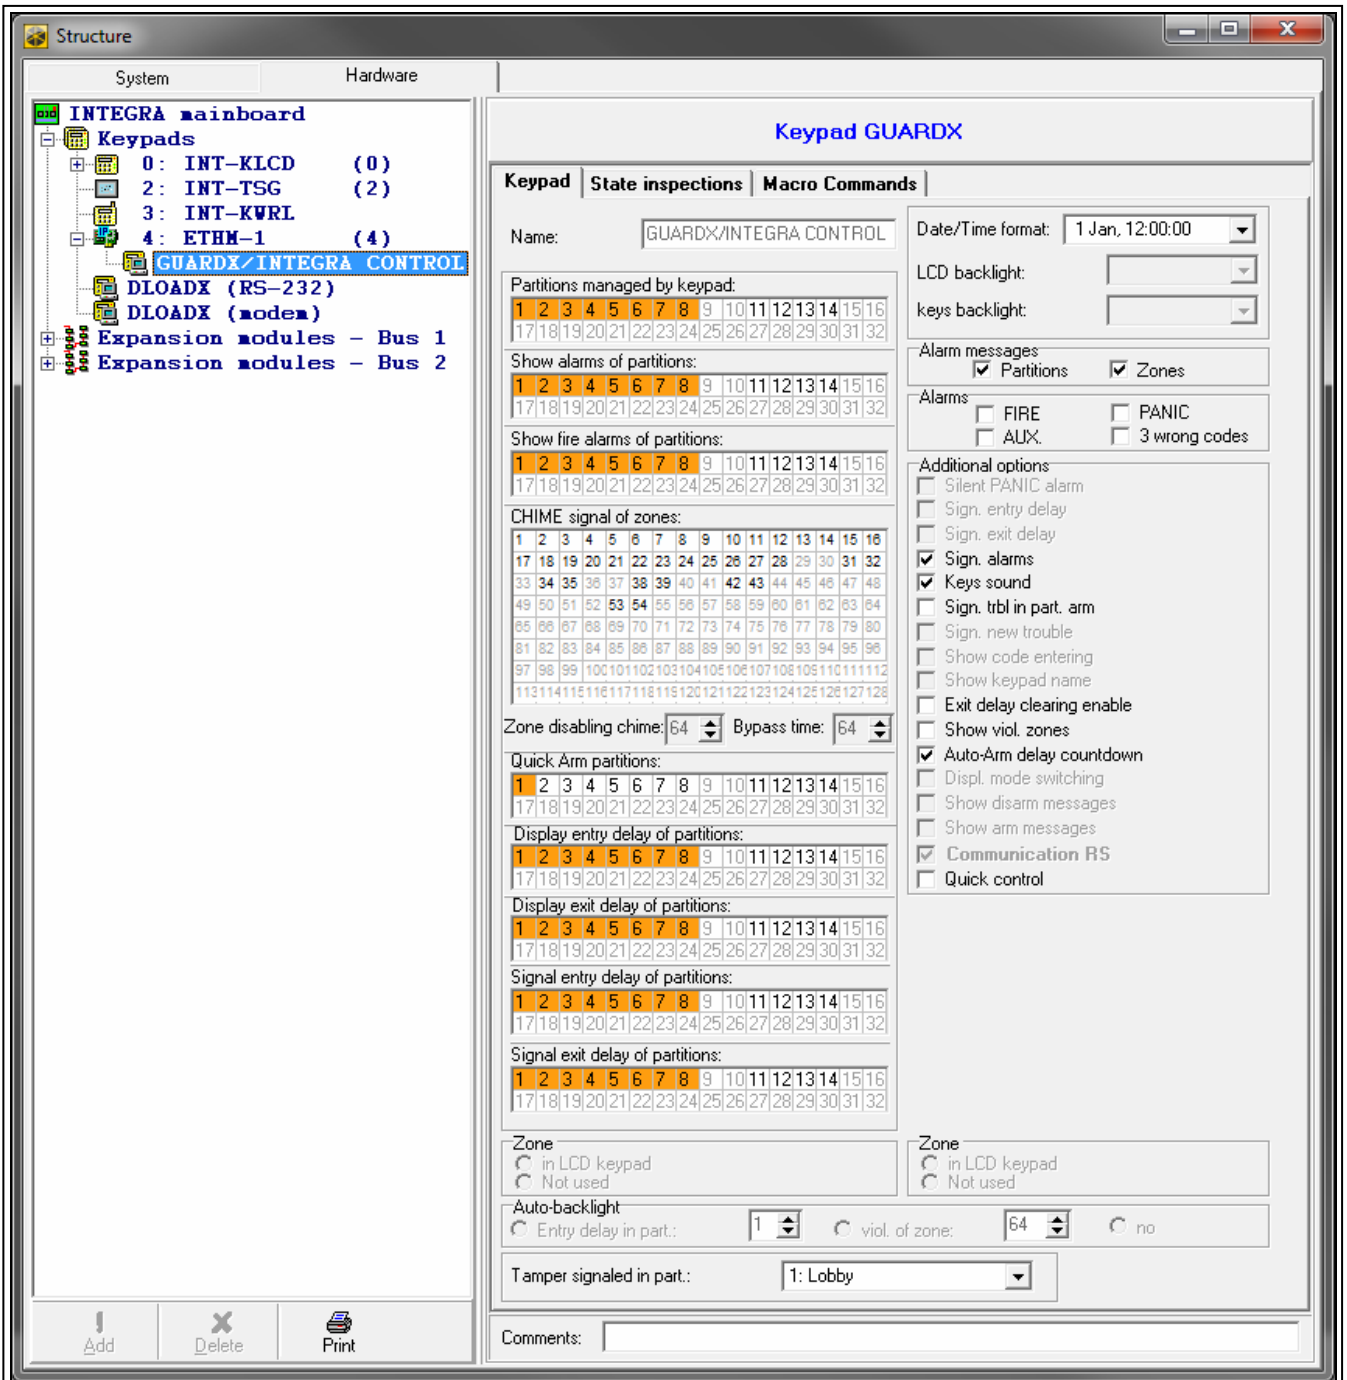

Fig. 9. DLOADX program: parameters and options of the virtual keypad available in GUARDX program, web browser or mobile device.
- DLOADX program: →“Structure” window →“Hardware” tab →“Keypads” branch →[module name] branch →“GUARDX/INTEGRA CONTROL” item (Fig. 9).